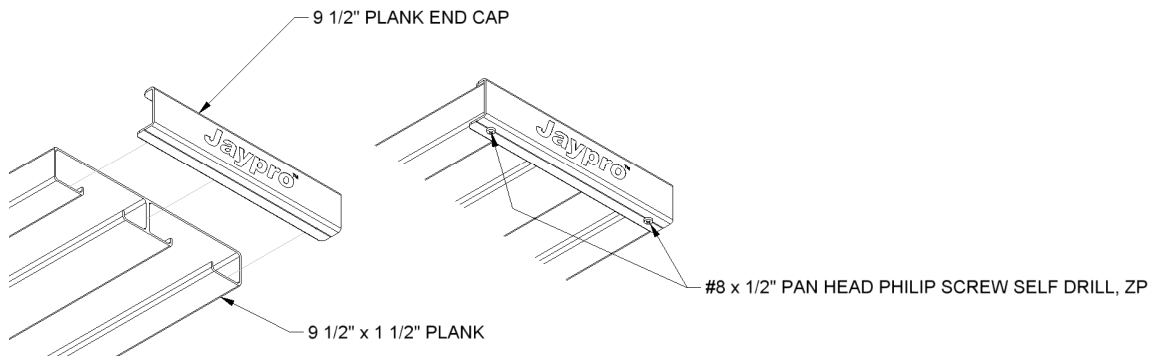

FIGURE: 2
2. Install end caps on both ends of each plank as shown in figure 2 – lightly tap on with a rubber mallet if necessary. Secure end caps in place using the #8 pan head self-drilling screws.